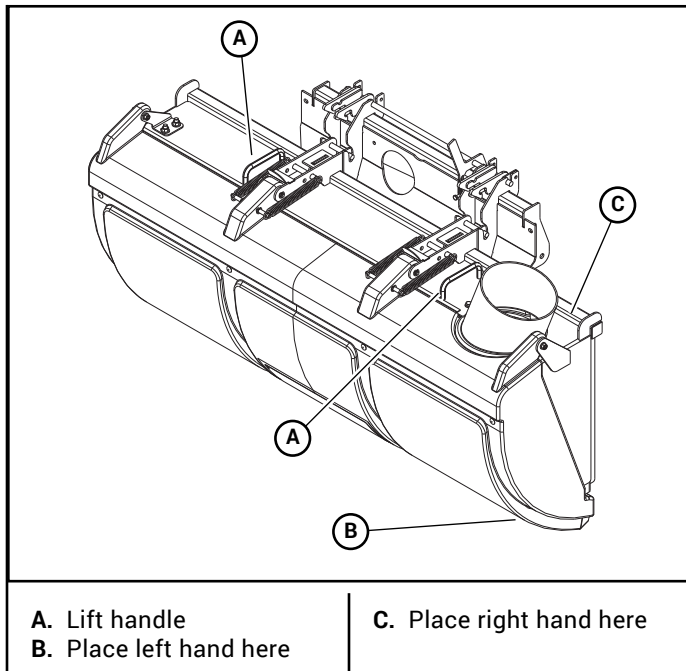
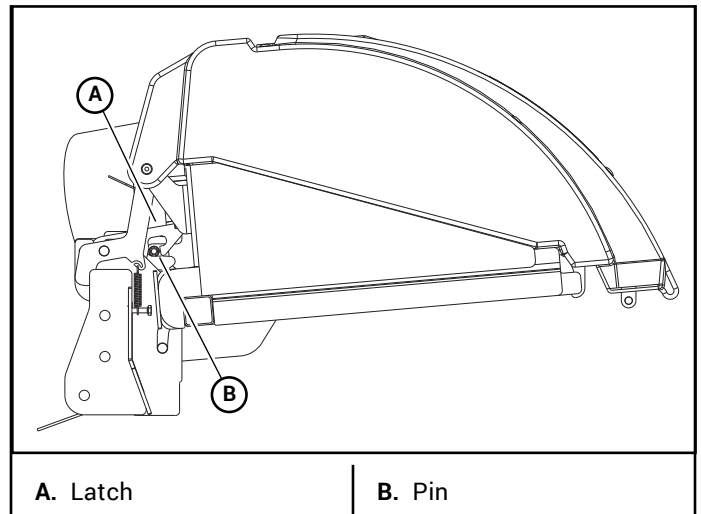

Figure 3-42
Figure 3-44
1. Lift the hood assembly using the lift handles. Figure 3-42
3. Place your hands on the hood assembly as indicated in Figure 3-42. By lifting with your left hand and pushing down with your right hand, pivot the lid assembly up 90° and over until the upper pins latch in the upper hood latch. Figure 3-44